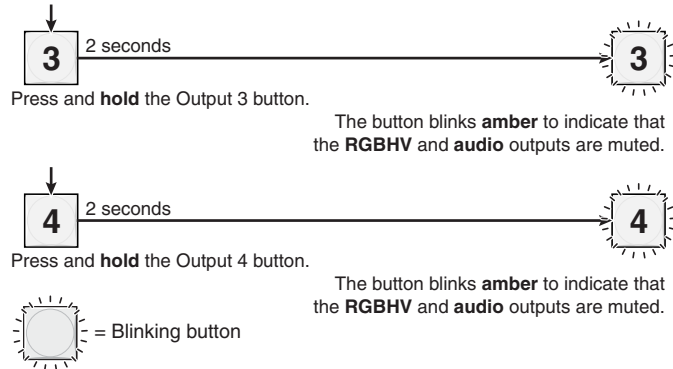

Figure 3-50 — Mute the outputs
4. **One at a time**, press and **hold** the Output 3 and then the Output 4 buttons (figure 3-50) for approximately 2 seconds until the buttons begin to blink. The output 3 and output 4 video and audio signals are muted.